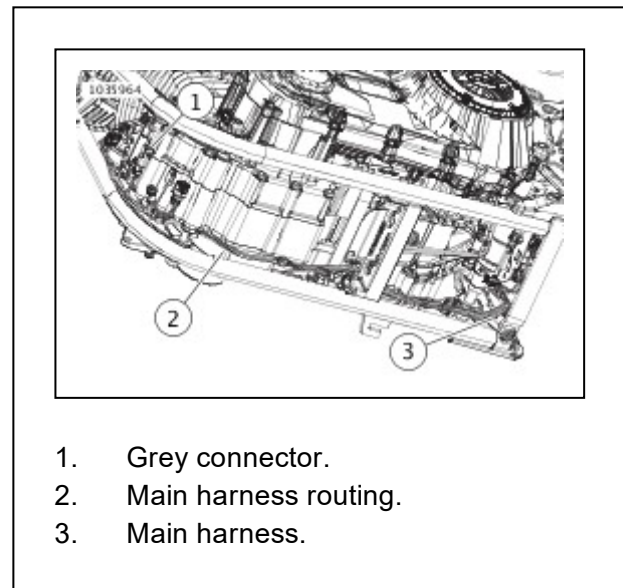

Figure 19. Harness Routing
14. See **Figure 19**. Route grey harness connector out of battery compartment:
- a. Locate main harness (3).
- b. Route harness with grey connector along main harness (2) toward the front main harness connector.
- c. Color match connectors (1): grey to grey.